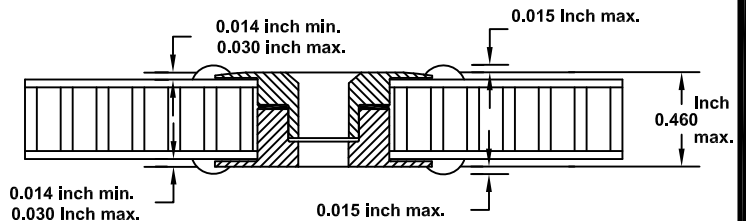

FIGURE 4
- G. Visually inspect each insert to see that there is a squeezed-out fillet of adhesive completely around the periphery of the flange. Do not remove this squeeze-out. Visible fillets of adhesive are required. Smooth those areas where the adhesive extends more than 0.015 inch above the surface of the insert flange. See figure 4. A wiper dampened with alcohol may be used for post assembly cleanup. Do not allow solvent to wet the bondline. Remove any adhesive from inside bore of the insert before it cures.